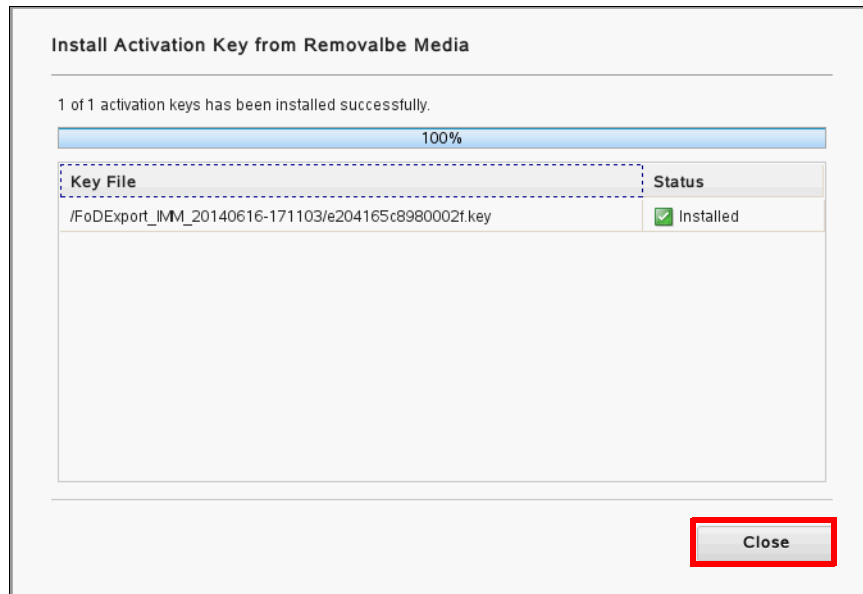

Figure 3-21 FoD key installation results
3. Upon completion of the installation process, a success message is displayed and the status changes to Installed, as shown in Figure 3-21.
- At completion, the installation results of each feature are displayed, similar to what is shown in Figure 3-21 on page 65.